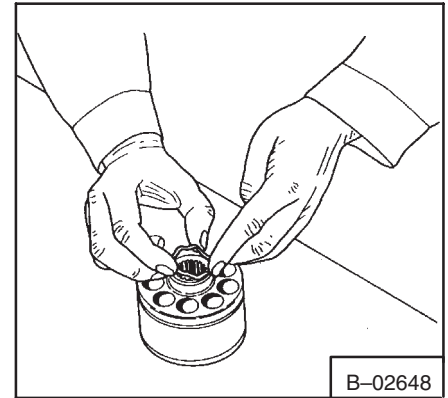

Fig. 3-24.1 Install Wave Washer (Motor)
7. Install shaft in housing and install washer (3), shaft seal (2) and hold with snap ring (1).
9. Compress the pin keep (24) and install the spline. Install the three pins (25) with the head to the inside of the block. Install the wave washer (Fig. 3-24.1). Install pins in the special grooves of the piston block spline.
10. Install the pivot (22), spider (21) and the piston assemblies (20) in the piston block. Install this assembly in the housing assembly the piston shoes must be in contact with the camplate. Be sure all the parts are in their correct position.
12. Install new gasket (30).
13. Install back plate (32).
14. Install new O-ring (36) and back-up washer (37) on the check valve assembly (38). Install O-ring next to the roll pin. Install in back plate (32) with roll pin in back plate.
15. Install key (39) on the shaft and install the inner geroter gear (40) over the shaft. Use oil to lubricate the gear.
16. Install the outer geroter gear (41) over the inner geroter gear (40). Use oil to lubricate the outer gear.